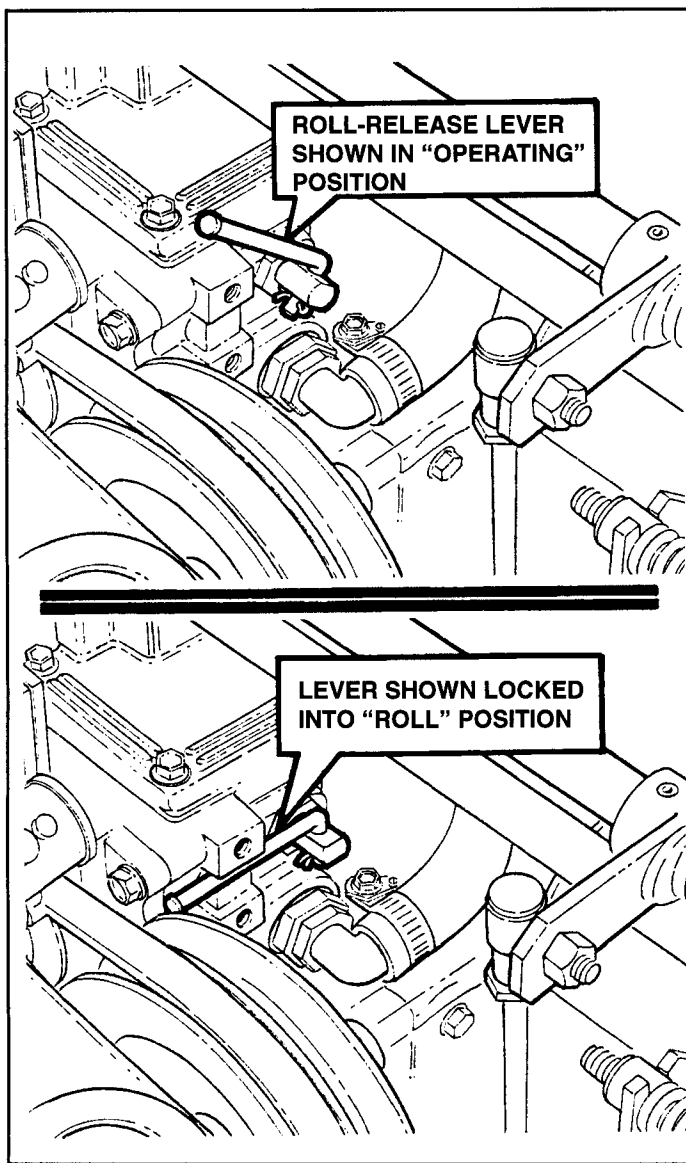

FIGURE 6.1
1. Check position of Roll-Release Levers. Make certain they are in "Operating Position". See Figure 6.1.